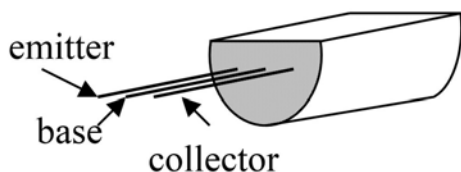
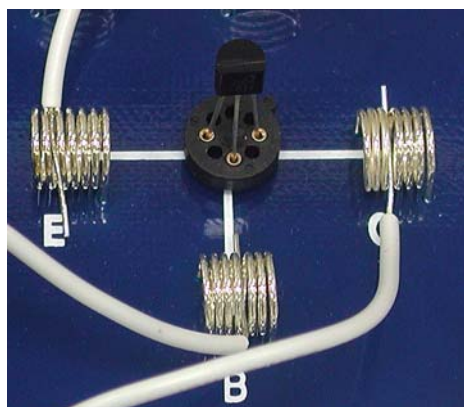

Figure 3: Physical Transistor
Figure 4: Transistor Mount
1. Locate the 2N-3904 transistor. Use Figure 3 to identify the base, emitter and collector. Bend the wires slightly to mount the transistor in the transistor mount as shown in Figure 4. Note that the flat side of the transistor is facing the base spring so the emitter is on the left.